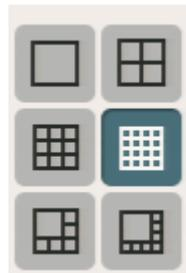

Figure 10. Selecting a Main Monitor Division
1. Click the Main monitor icon  (refer to Figure 10).